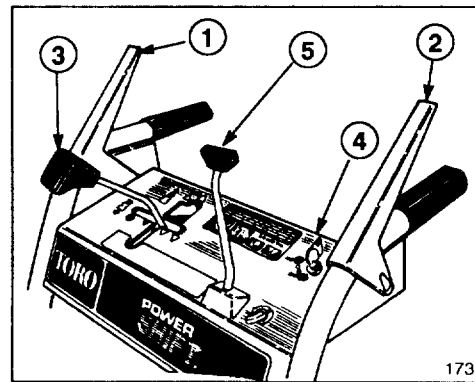

Figure 12
(Fig. 12)—Control has two positions: ENGAGE and DISENGAGE. To engage both auger and impeller, compress lever against right handle grip. To disengage, release lever.
Traction Drive Control (Fig. 12)—To engage traction (wheel drive) or activate power shift system, lever must be compressed against left handle grip. To stop traction, release lever.
Speed Shift Control (Fig. 12)—The control has a neutral position, four speeds forward and two reverse and also controls power shifting of wheels. To select speeds, move shift control to desired position.
Auger Lock-Up (Fig. 12)—When auger/impeller control and traction drive control are both compressed, the traction control locks the auger/impeller control down. Releasing the traction control releases the auger/impeller control.
(Fig. 12)—Rotate discharge chute control clockwise to move discharge chute to the right and counterclockwise to move chute to the left.
Ignition Switch (Fig. 12)—Switch has two positions: ON and OFF. Rotate key to ON position before starting engine. To stop engine, rotate key to OFF.
1. Move speed shift control to N (neutral) and throttle to FAST (Fig. 12).
5. Rotate ignition key to ON (Fig. 12).
1. Release traction and auger/impeller drive controls (Fig. 12).